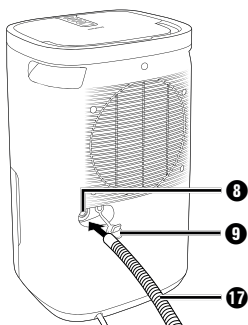

Fig. 2
- ◆ Connect either the supplied drainage hose **17** or the EU garden hose adapter **18** to the outlet opening **8** (see figures 2 + 3).